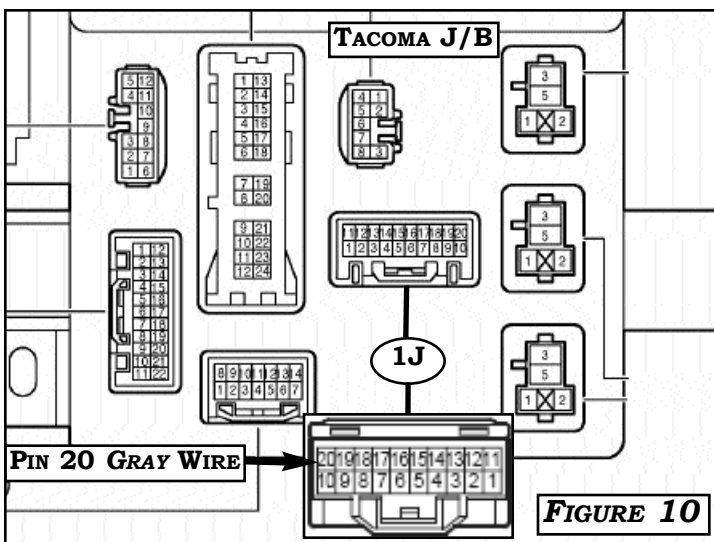

FIGURE 10
8) LOCATE POWER WIRE AT DRIVER SIDE J/B AS INDICATED BELOW AND MAKE ATTACHMENT TO Lt. BLUE POWER WIRE FROM RF HARNESS UTILIZING THE SELF-STRIPPING CONNECTORS PROVIDED. FIGURES 10~11